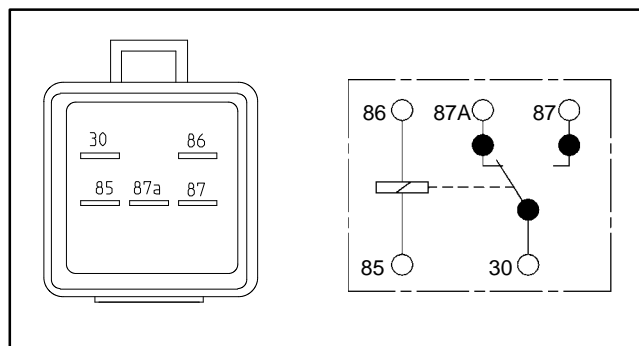

Figure 46
4. Using a multimeter (ohms setting), measure coil resistance between terminals 85 and 86 (Fig. 46). Resistance should be between 70 and 90 ohms.